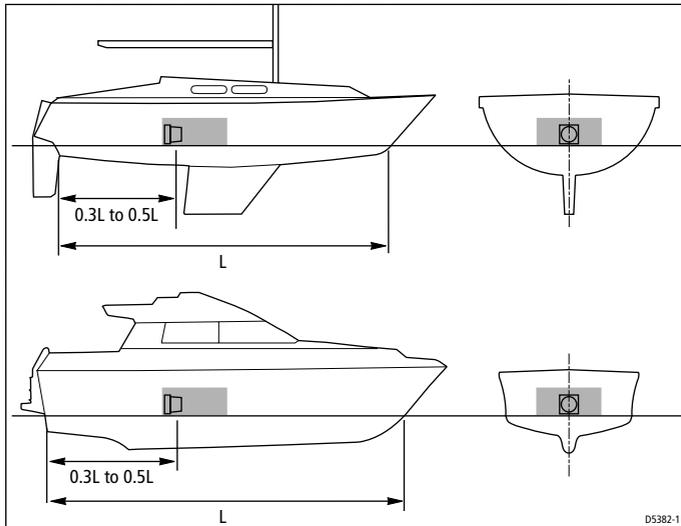

Figure 2-2: Compass - recommended location for non-steel hulls
- as near as possible to the boat's pitch and roll center to minimize compass disturbance (as shown in the shaded areas in *Figure 2-2*)